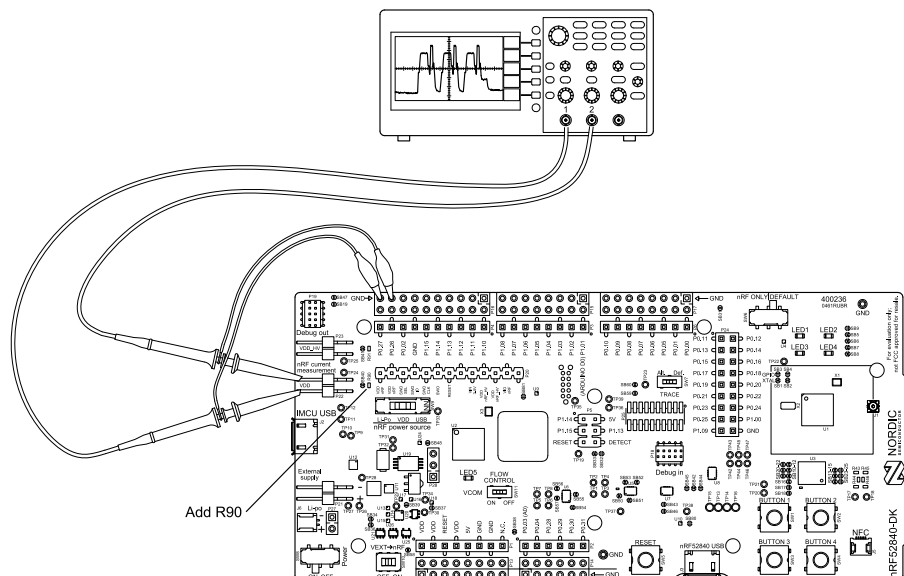

Figure 36: Current measurement with an oscilloscope
4. Connect the oscilloscope using two probes on the pins of the **P22** connector as shown in Figure 36: Current measurement with an oscilloscope on page 37.